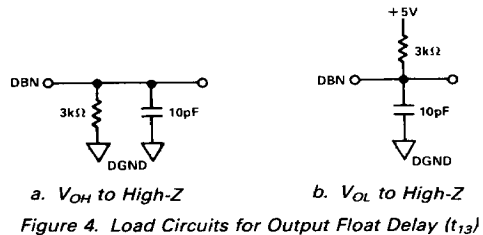

Figure 4. Load Circuits for Output Float Delay (t_{13})
- t_{13} is defined as the time required for the data lines to change 0.5V when loaded with the circuits of Figure 4.